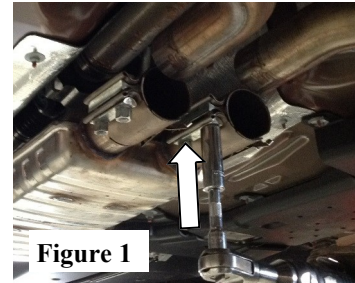

Figure 1
1. Loosen (2) factory band clamps on the factory mid-muffler. (See Fig.1)